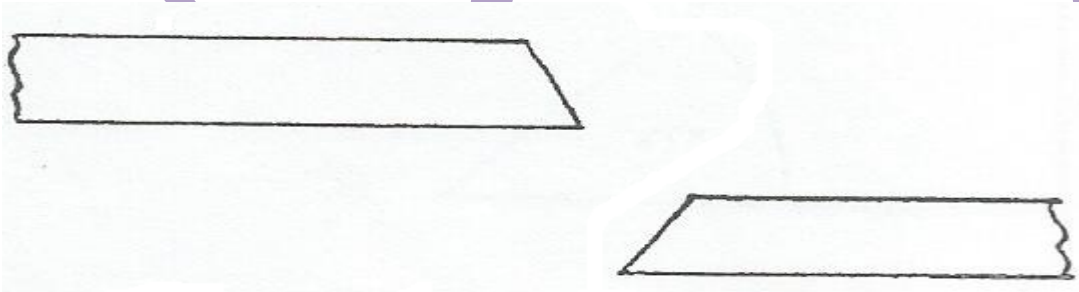

FIGURE 2
- 3.2 FIGURE 2, ADDENDUM A (attached), shows two plates which are not on the same level. Show by means of a sketch how to level the two plates. (4)